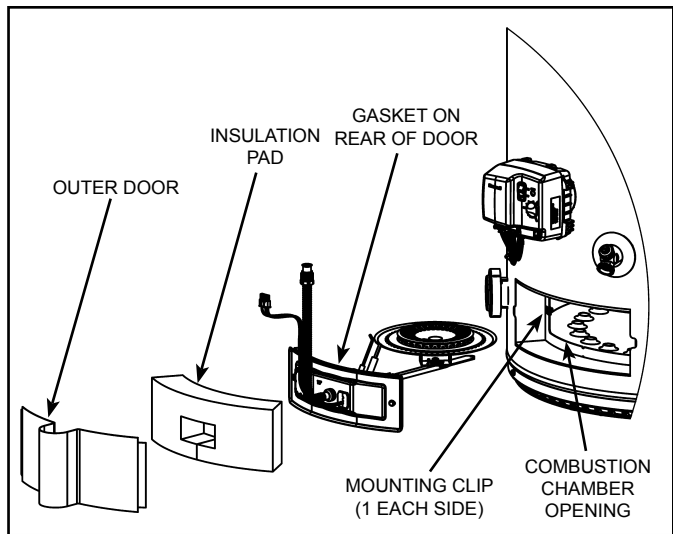

Figure 13
9. Remove inner door/manifold/burner assembly by grasping the manifold, rotating it to the left to clear the igniter and flame sensor and pulling back. Care should be taken when inner door and burner assembly passes through jacket opening that it does not damage any of the electrical wiring (see Figure 13).